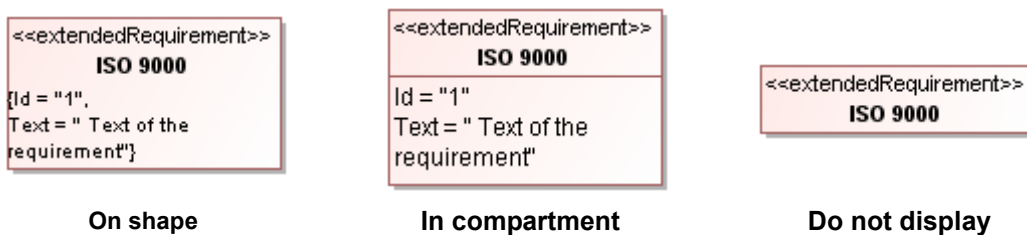

Figure 155 -- Different Displays of Requirement Elements
2. Select one of the displaying modes. The result is shown in Figure 155.